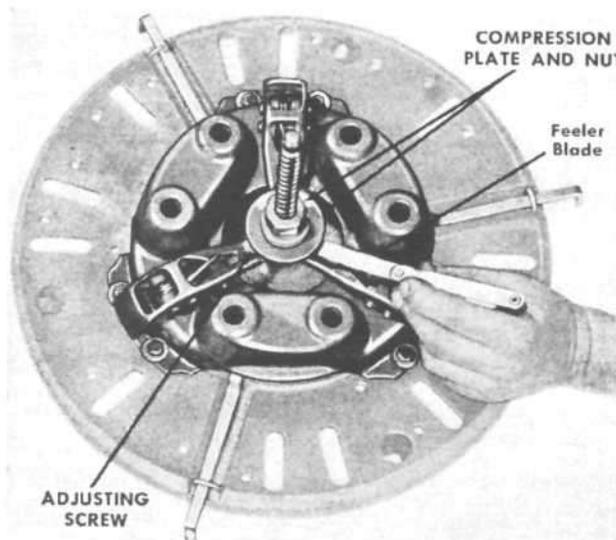

FIG. 179—ADJUSTING LEVERS ON ROCKFORD CLUTCH
- g. Adjust the three lever adjusting screws until a .002" feeler blade has a slight drag between the compression plate and each adjusting screw. Fig. 179.